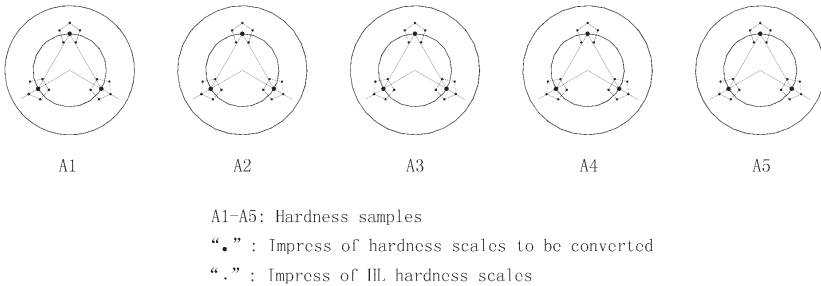

Figure 3
- For special material, if accurate conversion from the Leeb hardness into other hardness method is wanted, contrastive test must be done to get conversion relations. Use inspected qualified Leeb hardness tester and corresponding other hardness tester to test at same sample respectively. For each hardness value, measure 5 Leeb hardness values. using Leeb hardness arithmetic average value and corresponding hardness method average value as correlative value to make individual hardness contrastive curve see figure 3.